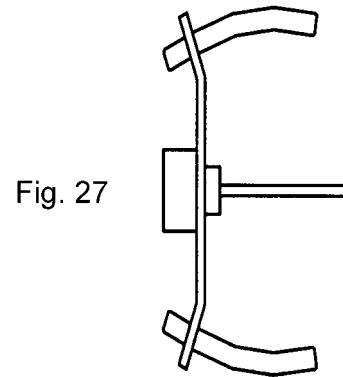

Fig. 27
- With the adapter attached to the balancer remove any wheels, cones and sleeves from the shaft (Fig. 27).